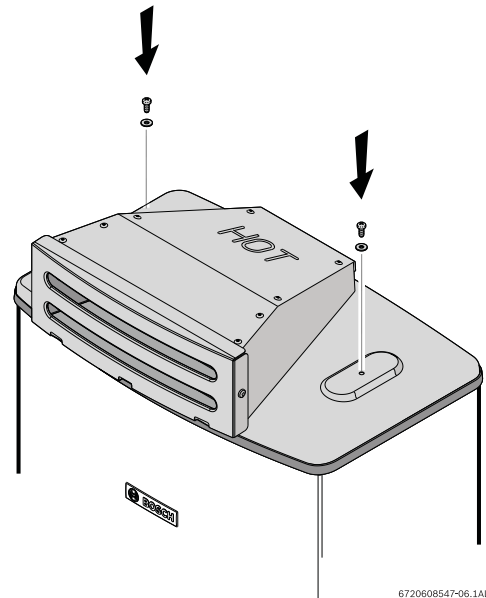

Fig. 8
- Attach the outdoor vent cap to the appliance by fastening the two provided screws and washers, see Fig. 8.